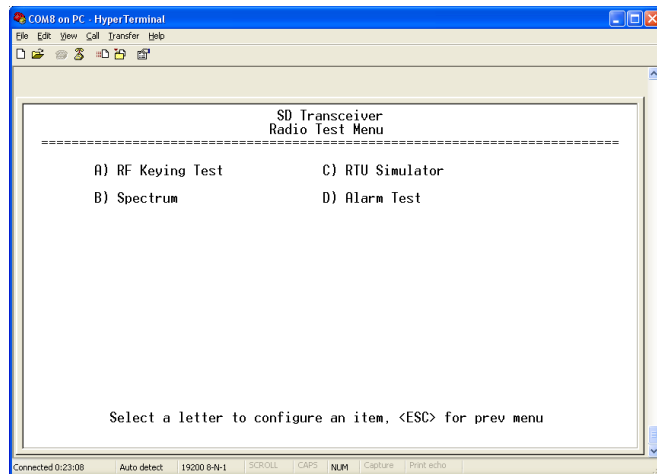
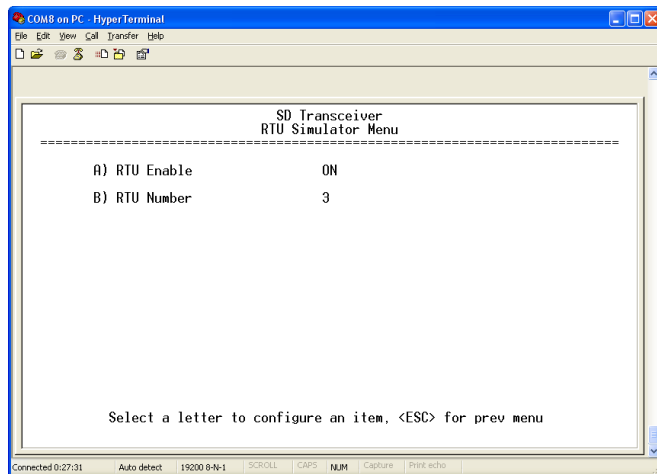

Figure 48. Radio Test Menu
Figure 51. RTU Simulator Menu
The radio's menu system contains several tools useful for testing the RF performance of the unit. A key menu for this function is the Radio Test Menu (Figure 48). It provides a way to key (activate) the transmitter, measure power output, run a spectrum test, and enable the built-in RTU simulator.
1. Select **RTU Simulator** from the Radio Test Menu (Figure 48). The submenu shown in Figure 51 appears.